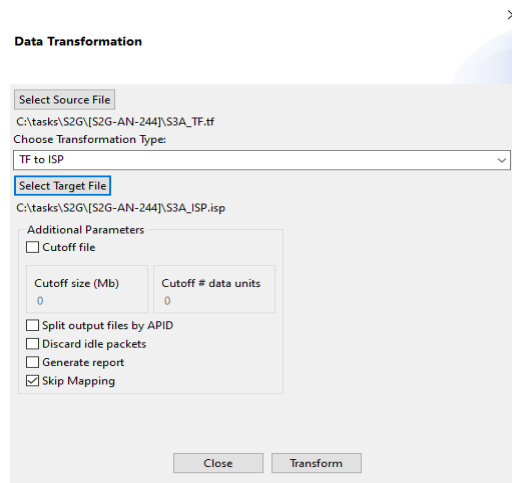

Figure 37: Transformation Dialogs
2. Select menu “Tools” → “Transform” (or click the “Transform” button in the toolbar), to show the transformation dialog (Figure 37). Depending on the type of file selected as source of transformation the dialog will request different transformation parameters.